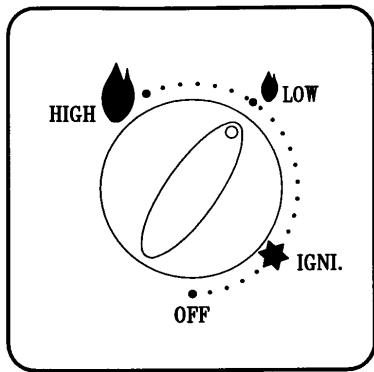

Fig.4
7. To turn off the main burner, turn the control knob in a clockwise direction to low flame. (see Fig. 4)